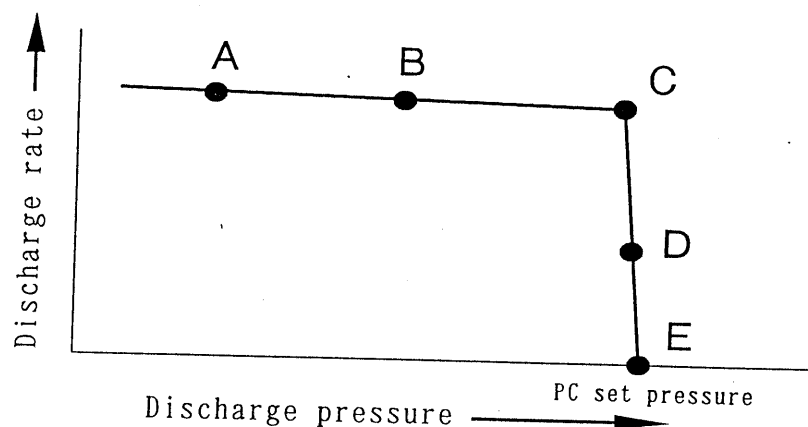
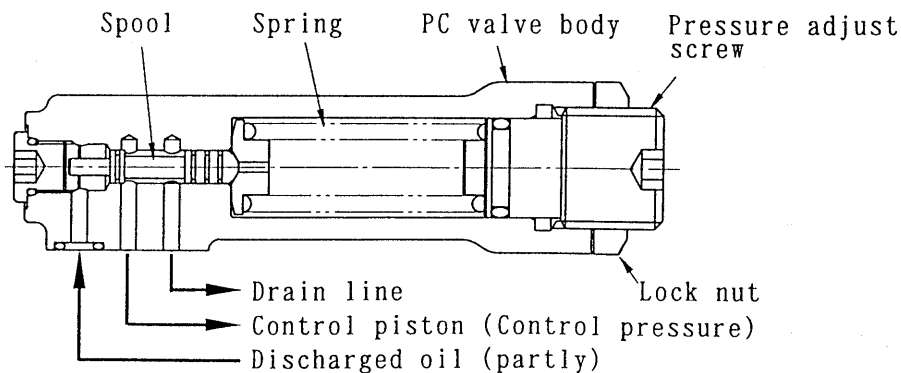

Fig. 1
Fig. 2
- Usually the swash plate is kept at the preset maximum swash degree by bias pistons with spring into which discharge pressure is supplied, and oil volume equivalent to this swash plate angle is discharged. (Fig. 1 : A, B)
- The discharge pressure is partly induced into the spool end face of the PC control valve. When the pressure is further raised up to nearly the adjusted and set pressure (PC set pressure) by means of a spring internally provided in the PC valve (Fig. 1, C), the spool is shifted due to the pressure rise, then permitting the oil discharged to be reduced. The reduced pressure is fed as control pressure into the control piston. (Fig. 2)
- Due to action of the control pressure, the control piston makes the swash plate angle smaller against the bias piston and the spring and thereby reduces the discharge rate. In this case, the discharge pressure, control pressure and discharge rate are balanced automatically and stably. (Fig. 1 : C → D → E)
- When the discharge pressure has reached the PC set pressure, the swash plate angle is nearly 0° (neutral position) and the discharge rate comes down to zero, with the discharge pressure kept at the PC set pressure. Such a condition is called "Dead Head" or "Full Cut-off". In this case, the swash plate is in slight tilt corresponding to the replenishment rate against drain. (Fig. 1 : E)
- If the discharge pressure comes down slightly from this dead head condition the control pressure supplied into the control piston reduces correspondingly so that the swash plate is pushed toward the maximum swash angle by the bias piston with spring and then permits increasing of the discharge rate. (Fig. 1 : E → D → C)
- When the discharge pressure further comes down with discharging, the control piston pressure is released into the drain line so that the swash plate return to the initially preset maximum swash angle and the discharge rate is restored. (Fig. 1 : C → B, A)
- Further, the pressure compensation control system can stably hold pressure and flow rate at optional points A to E in Fig. 1. However, continuous operation is not available in the area beyond motor capacity. Furthermore, even under step operating condition like A → E and A ← E in Fig. 1, the discharge pressure passes through C-point instantaneously. In this C-point exceeds greatly the motor capacity, further continued operation will be occasionally unavailable. (Refer to Subsection 9-2 "Output Range".)